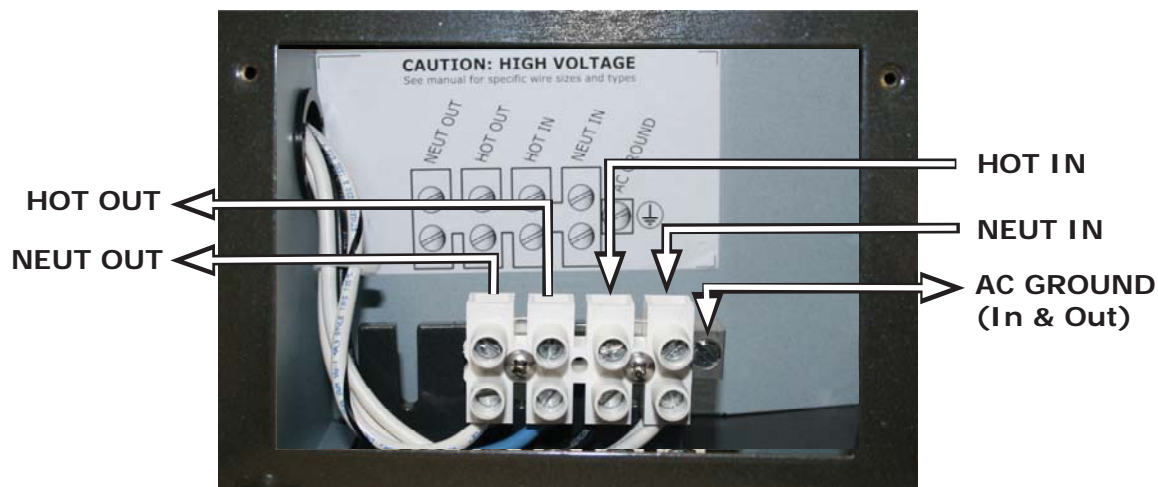

Figure 2-10, AC Terminal Block
1. Remove the two Phillips screws on the AC Access Cover (see Figure 1-3, Item 15) to access the internal AC Terminal Block (see Figure 2-10).
AC Side - Where the AC output from the inverter is connected to an AC load center, there should be an equipment grounding conductor connected between the inverter case and the grounding point in the AC load center. The AC Equipment Grounding Conductor (EGC - AC) is sized per Table 2-4 and is connected to the inverter's AC equipment grounding terminal shown in Figure 2-10.